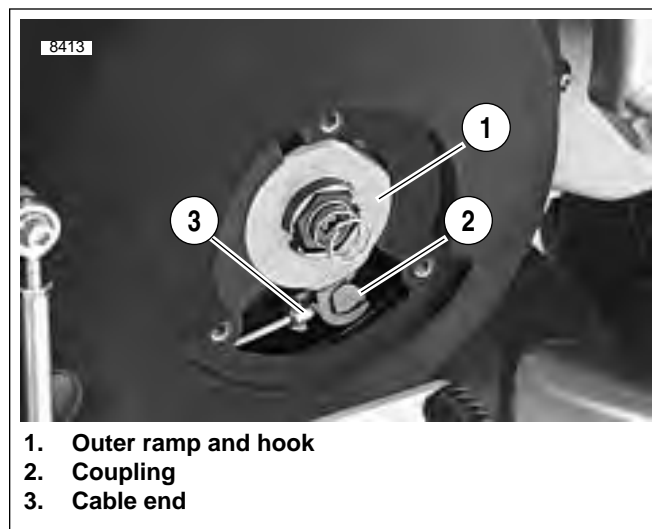

Figure 2-100. Clutch Release Mechanism (Typical)
16. See Figure 2-100. Remove the outer ramp and hook (1) from the cable end (3) and coupling (2). Remove cable end from slot in coupling. See 6.3 CLUTCH RELEASE MECHANISM.
3. See Figure 2-100. Install cable end into slot in coupling. Install the outer ramp and hook (1) onto the cable end (3) and coupling (2) and place assembly back into the clutch inspection area in the primary cover. See 6.3 CLUTCH RELEASE MECHANISM.